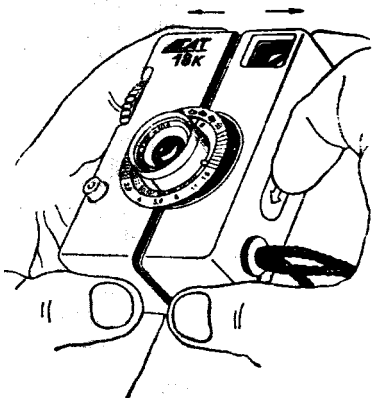

Figure 5
5.1. Remove the cover from the lens. Take the camera as shown on figure 5. Push the lock button (14) in direction specified by the arrow on it. Keeping it displaced position, remove the camera cover (13).